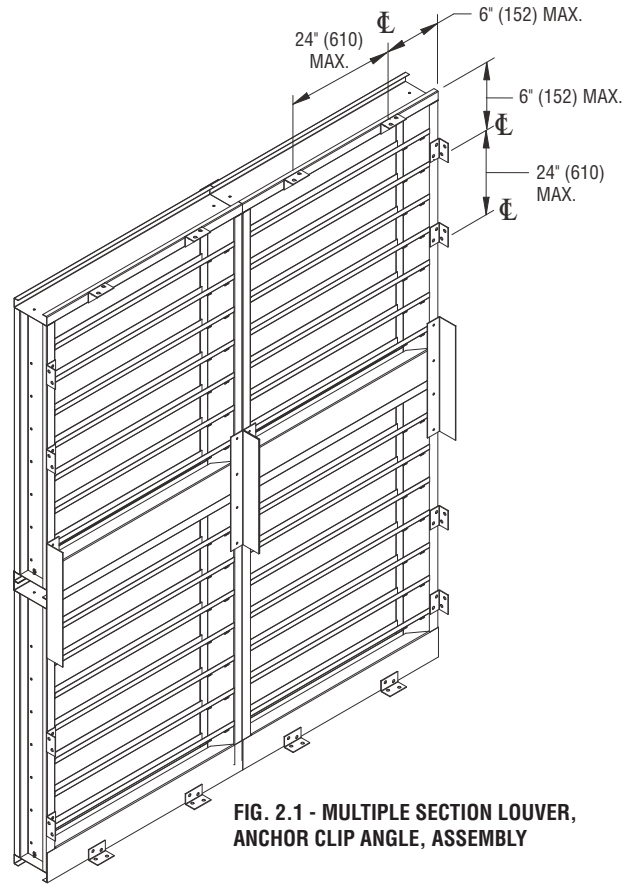

FIG. 2.1 - MULTIPLE SECTION LOUVER, ANCHOR CLIP ANGLE, ASSEMBLY
3. Locate and anchor clip angles 1.5" x 1.5" x 12 gauge x 2" long (38 x 38 x 2.75 x 51) as required to establish proper louver depth and position. See Fig. 2.1 for required spacing for stationary and operable louvers. (Clip angles are by others or optional by Nailor).
3. Locate and anchor clip angles as required to establish proper louver depth and position. See Fig. 2.1 for required spacing. (Clip angles are by others or optional by Nailor).